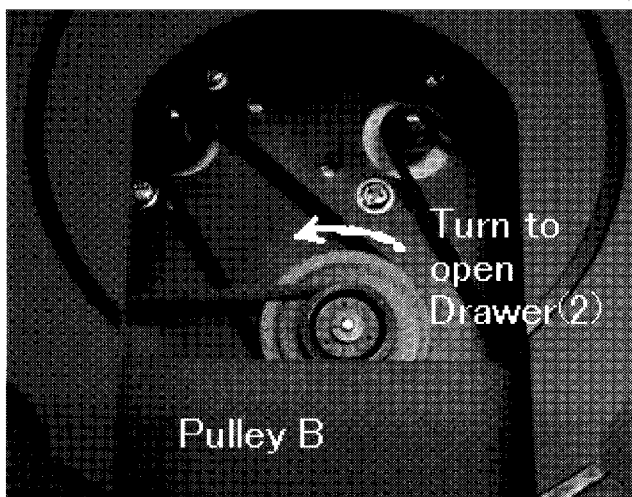
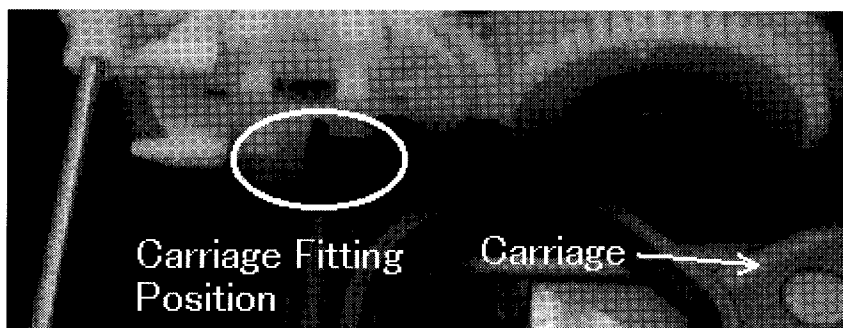
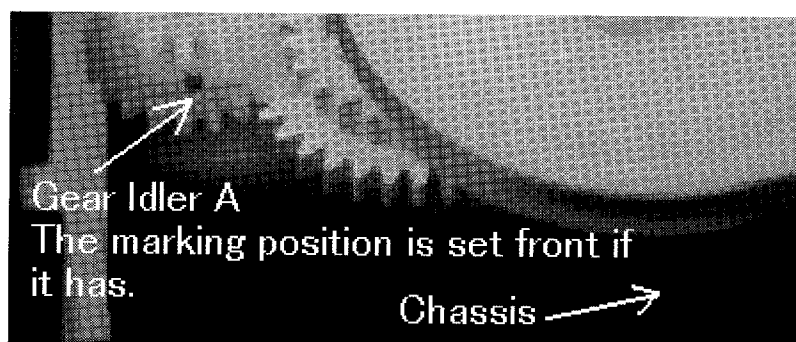
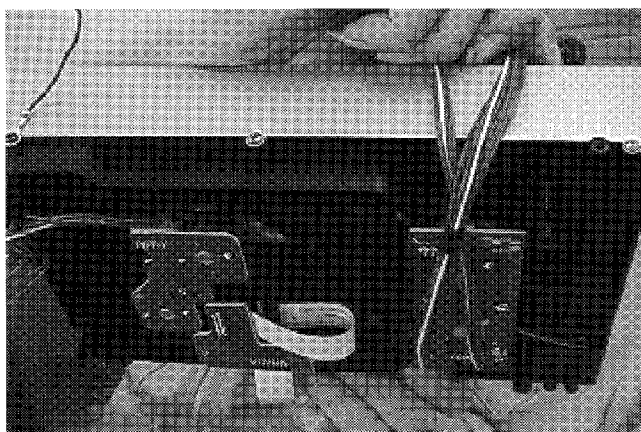

Fig.11
Fig.16
Fig. 18
Fig. 19
- 1) Remove 6 SCREWS(115) from COVER(23).
- 2) Turn PULLEY B(49) anti-clockwise and pull DRAWER(2) block. The DRAWER block is easily pulled out. (See Fig.11)
- 2) Then push in the left side of **CARRIAGE 20** on STAR GEAR C(20) and the rail part by warping the CARRIAGE. (See Fig. 16.)
- 3) Turn BEVEL GEAR 4 (8) clockwise to move **CARRIAGE 20** inside. After it reaches innermost, you cannot turn BEVEL GEAR.
- 5) Pulling up **CARRIAGE 20** horizontally, turn BEVEL GEAR 4 more clockwise. Then, **CARRIAGE 20** is installed and **CARRIAGE 10** moves inside by turning BEVEL GEAR 4(17) clockwise.
- 7) In assembly of the left side of CHASSIS, GEAR IDLER A(39) has a direction. (See Fig.18) Set it as its marking faced to the front. (If it doesn't have any marking, no need to take care of direction.)
- 10) When you assemble DRAWER block with CHASSIS, it is important that linear gears in CHASSIS gang well with GEAR IDLER A(39). While GEAR IDLER A isn't ganged well, turn PULLEY B(49) (Fig. 11) a bit and make them ganged. (Take care not to turn it much. GEAR IDLER A should be in +/- 45 degrees from the center.) (See Fig. 18)
- 11) Push in two hooks at the both sides as they sound click. (You may fix the right side hooks first before you move Drawer block inside in item 9).
- 12) Put COVER(23) and mount six SCREWS(115).
- 13) This is a completed or removed condition. (See Fig. 19.)